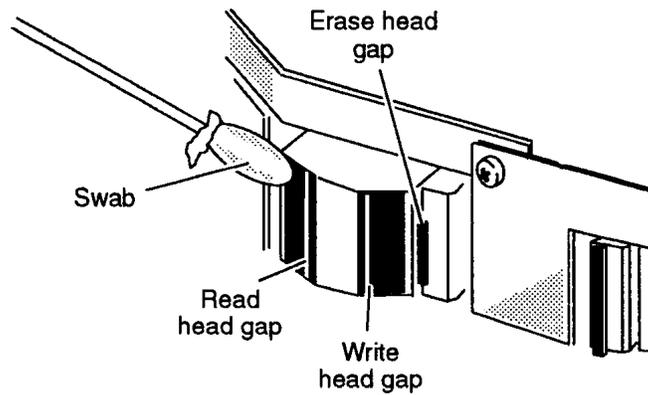

Figure 6-2 Cleaning the Read/Write Head
1. Clean the entire surface of the head, including the erase head as shown in Figure 6-2 Rub firmly until all deposits are removed.